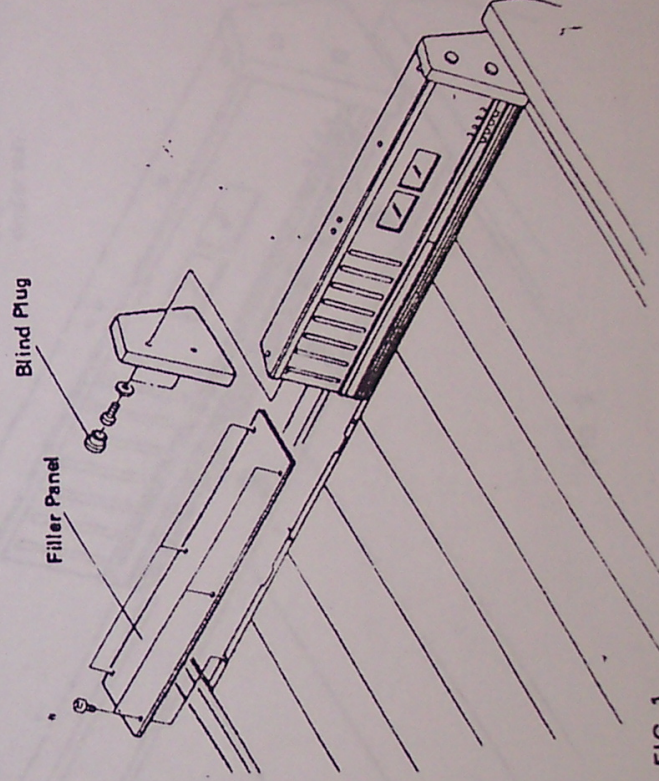

FIG. 1
- 1-1. Refer to Figure 1. Remove the filler panel by removing the blind plugs then the screws beneath from the meter's left side panel (viewed from the front).